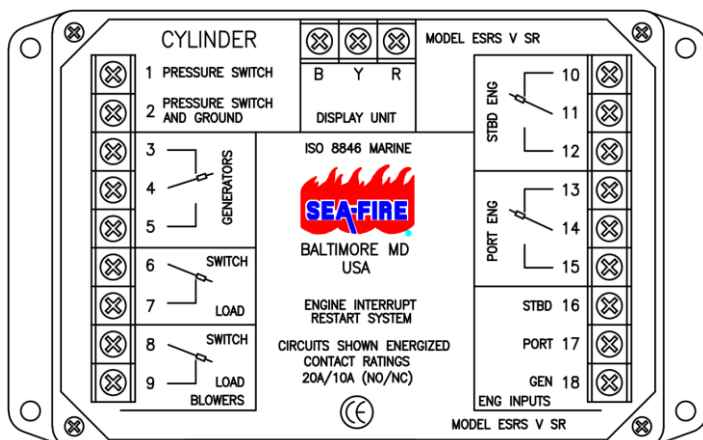
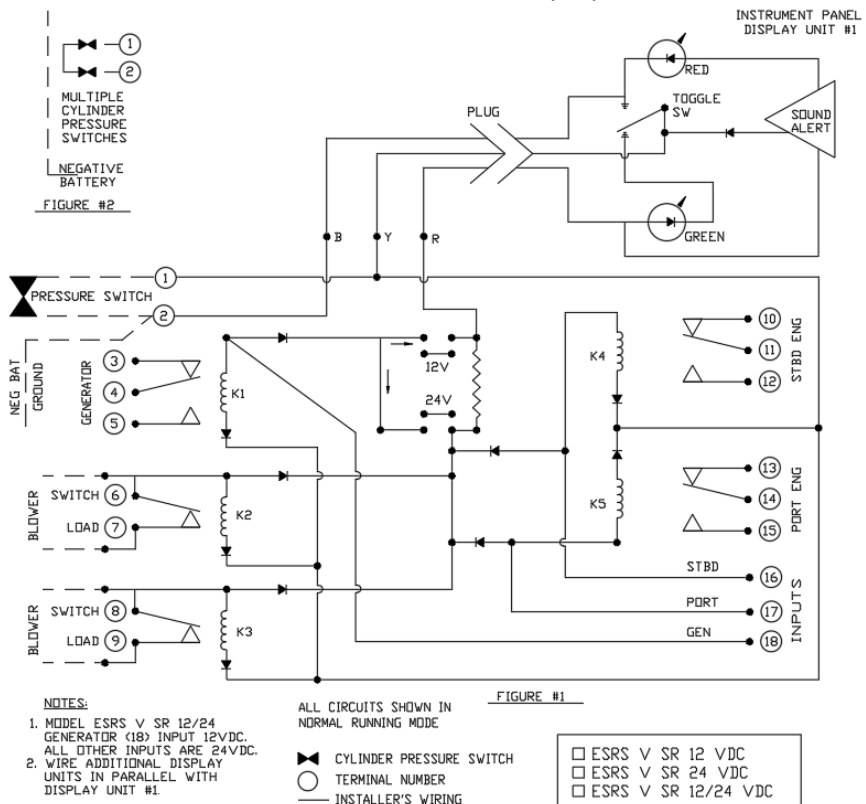

Figure 1: Engine Shutdown Restart Systems for use with Automatic Fire Extinguishers
Figure 3: Wiring Schematic
Connections to the Control Unit and the Sea-Fire extinguisher should be made with insulated crimp connectors. Refer to the wiring diagram in **Figure 3** when making connections to this unit.
Gasoline engine(s) can be shut down by interrupting the path of primary ignition power from the key switch to the ignition coil. This can be accomplished by utilizing the common and normally open contacts shown on the unit in **Figure 1** and wiring diagram in **Figure 3**.
1. The fuel solenoid valves are energized to open on start-up, and de-energized to close on shutdown, starving the engine of fuel. This can be done utilizing the common and normally closed contacts shown on the unit in **Figure 1** and wiring diagram in **Figure 3**.
2. The fuel solenoid valves are de-energized to open on start-up, and energized to close on shutdown, starving the engine of fuel. This can be done utilizing the common and normally open contacts shown on the unit in **Figure 1** and wiring diagram in **Figure 3**.
Complete all electrical connections described in the Electrical Connections Section. Confirm that all connections are correctly wired per the wiring diagram in **Figure 3** and properly secured.
**When connecting more than one extinguishing cylinder to a Control Unit, all pressure switches must be wired in series and grounded at the last pressure switch only. Each individual pressure switch must undergo an Installation Check. Refer to Figure 3 of the wiring diagram.**